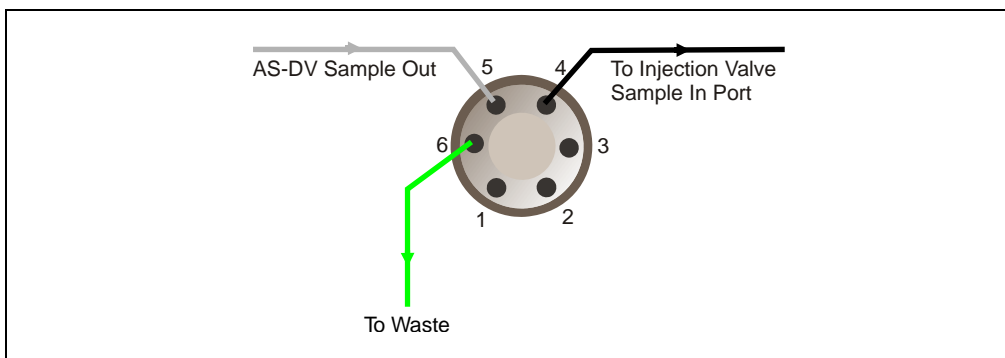

Figure B-6. 6-Port Valve Plumbing for Bleed Valve
- Plumbing the 6-port valve as a bleed valve (see Figure B-6).